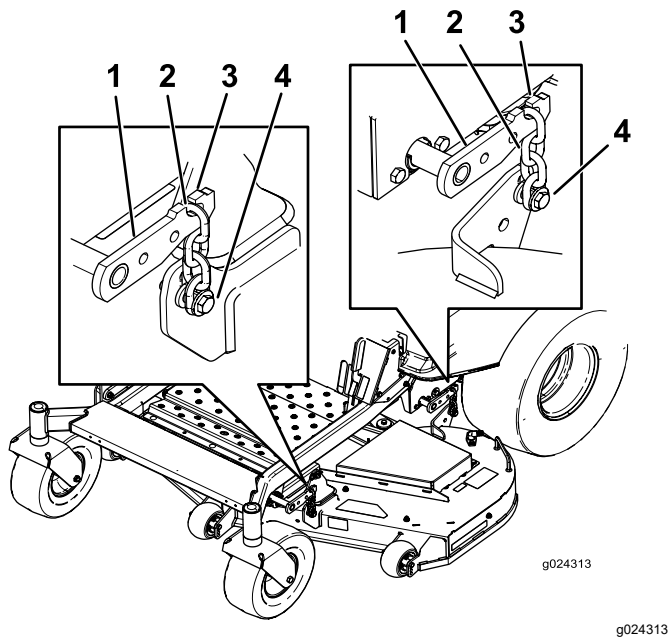

Figure 76
5. Loosen the adjustment bolts on all 4 corners so that the deck is sitting securely on all 4 blocks (Figure 76).
6. Ensure that there is tension on all 4 chains (Figure 76).
7. Tighten the 4 adjustment bolts (Figure 76).